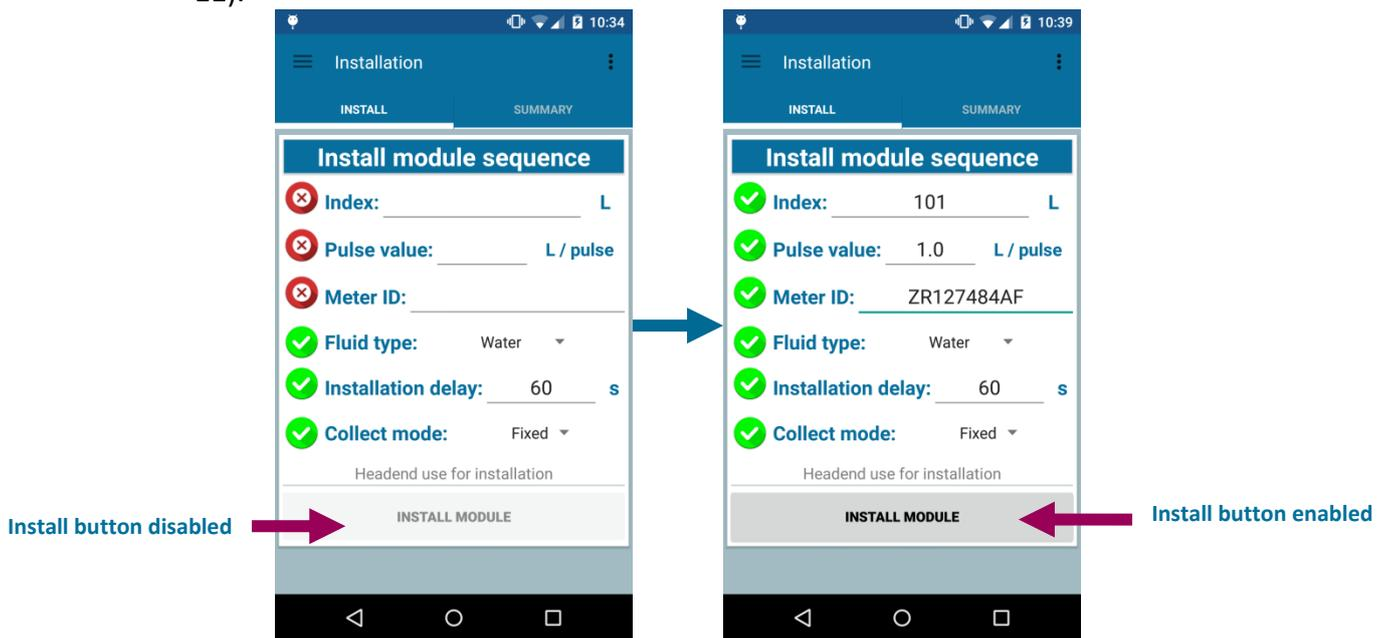

Figure 11: Installation user input
- Once all the parameters are filled-in, the “Install module” button becomes available. If one parameter is missing, the “Install module” button is not available (see Figure 11).